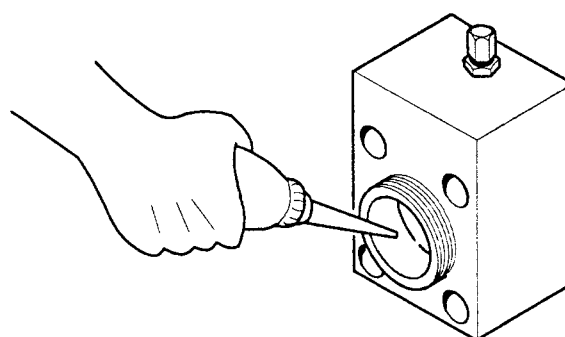

Figure 19. Lubricating Seal in Back Cap.
6. Apply hydraulic oil into the back cap for lubrication of the seals as shown in Figure 19.